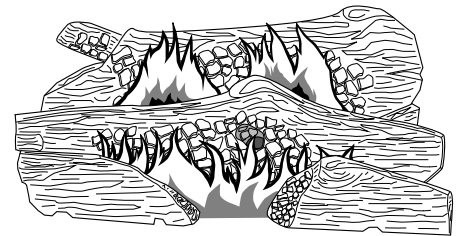

Figure 57 - Typical Flame Pattern for CHDV34(N/P)(A)
Figure 57 shows a typical flame pattern for CHDV34(N/P)(A) models.